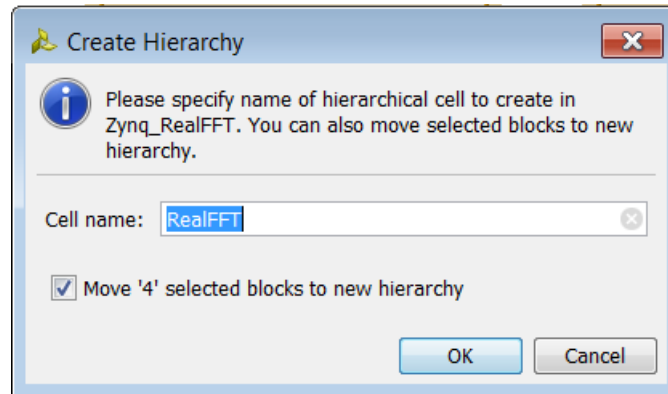

Figure 247: Name Hierarchy Block
- d. Ensure that the **Move '4' selected blocks to new hierarchy** option is checked, as shown in **Figure 247**.